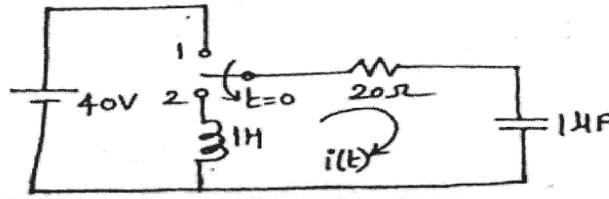

Fig. 8
- c) In the network shown in Fig. 8, switch is moved from position 1 to 2 at  $t = 0$ . Find expression for  $i(t)$  by Laplace Transform approach. [6]